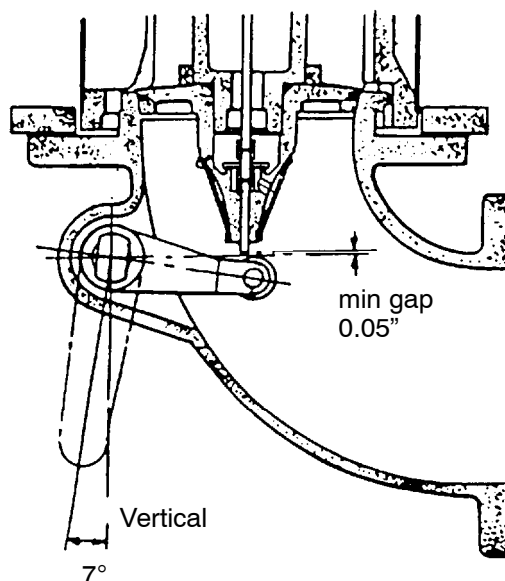

Fig 4.3 Valve Closed
11.2 Three external lever positions are required, ie VALVE CLOSED, LOADING, AND OFF-LOADING. The 'valve closed' position is established when a gap of approximately 0.050in (min) exists between the operating lever roller and the lower end of the control valve spindle. The other two positions are determined by the feel of the valve as the lever is moved. The approximate angles at which the extension lever should be set relative to the vertical are indicated in Fig. 4.3, 4.4, 4.5.